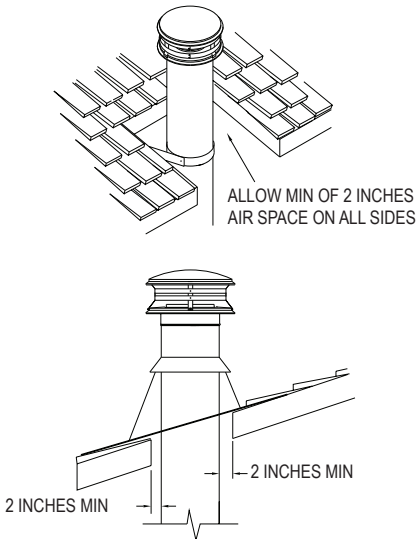

Figure 28
the wall to better fit your installation. Slip the Wall Straps around the chimney, tighten the bolts, adjust the clearance, and fasten the Wall Straps to the wall with (4) #8, 1-1/2" long wood screws. Once the chimney is at the minimum height specified in **Fig.1**, attach the Chimney Cap onto the top of the chimney by holding it by the collar and twist locking it clockwise onto the Chimney Pipe. If the chimney penetrates an overhang, frame for at least 2" of clearance, and install Flashing and Storm Collar as described in Steps 9 & 10 for "Ceiling Supported" Installations. Another option is to cut away the overhang for a 2" clearance (**Fig.28**). If the chimney extends more than 5' above the top Wall Strap or Flashing, use an Extended Roof Support Bracket.